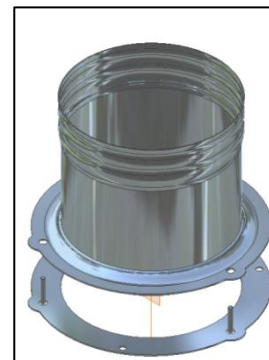

Figure 3-8: 6CON Liner Connector
The Astra 32 fireplace can be connected to a masonry chimney that complies with current national and municipal building codes. A 6 inch chimney liner that complies with ULC S635 M2000 (Canada) or UL 1777 (US) standards must be installed within the existing masonry chimney. Note that the 6CON connector (manufactured by SUPREME FIREPLACES INC.) must be installed to connect the prefabricated chimney to the liner (6CON sold separately), unless otherwise specified by the manufacturer of the prefabricated chimney being used. Refer to figure 3-8.